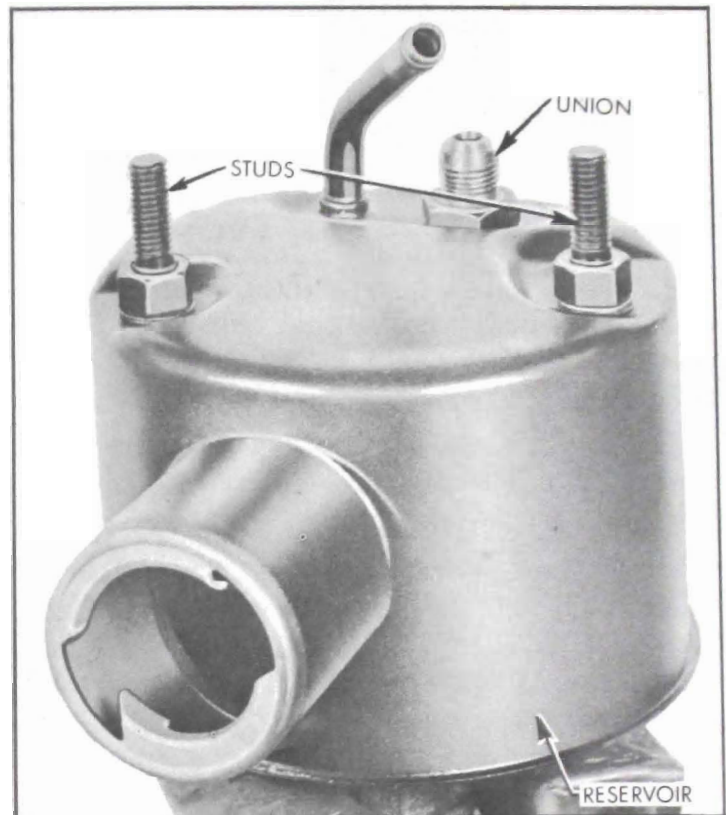

Figure 8-54—Oil Pump Reservoir
4. Remove two reservoir to pump housing studs and special sealing flat washers. See Figure 8-54.